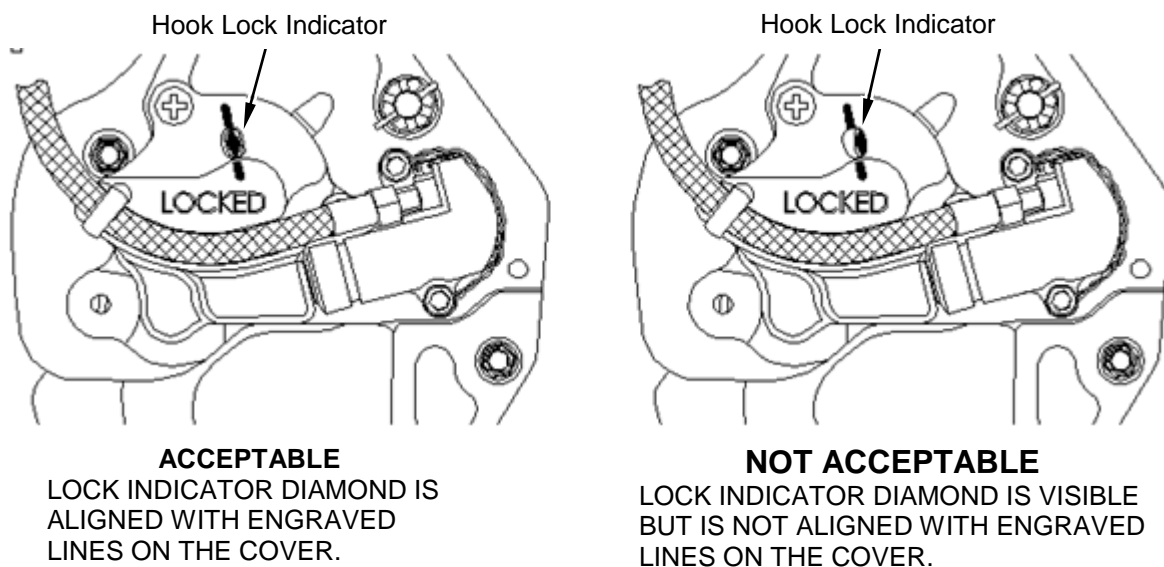

Figure 5.20 Hook Locked Indicator
2. Return the load beam to its closed and locked position by hand after release. Verify that the hook lock indicator on the side of the hook returns to the fully locked position. In the fully locked position the hook lock indicator should align with the lines on the manual release cover (see Figure 5.20). If the hook does not release or re-latch, do not use the unit until the problem is resolved.
8. Activate the hydraulic release systems by pulling the release levers in the cockpit. The mechanisms should operate smoothly and the cargo hooks must release. Return the load beams to their closed and locked position by hand after release. Verify that the hook lock indicators on the side of the hooks return to the fully locked position. In the fully locked position the hook lock indicators should align with the lines on the manual release cover (see Figure 5.20). If a hook does not release or re-latch, do not use the unit until the problem is resolved. Return the release lever lockout mechanism to its place.